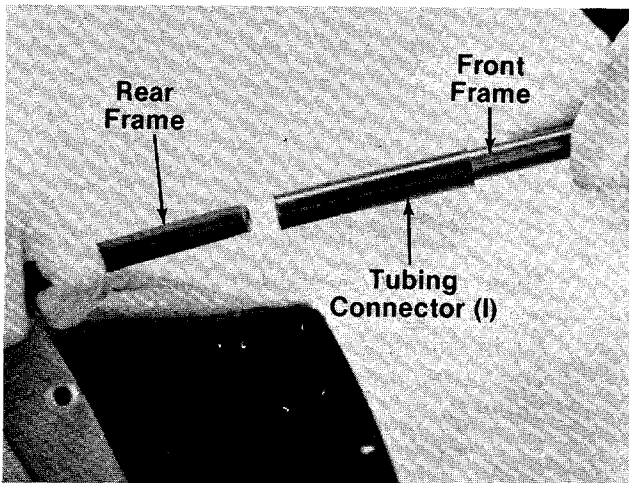

FIGURE 6.
1. Join the front and rear frames by pushing the ends of the rear frame into the ends of the tubing connectors (I). See figure 6.